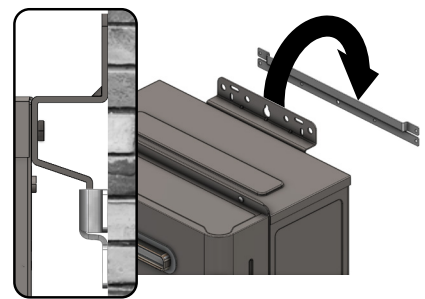

Figure 10 - Hang Water Heater on Wall Bracket
**2** Hang the heater on the mounting bracket (Figure 10).